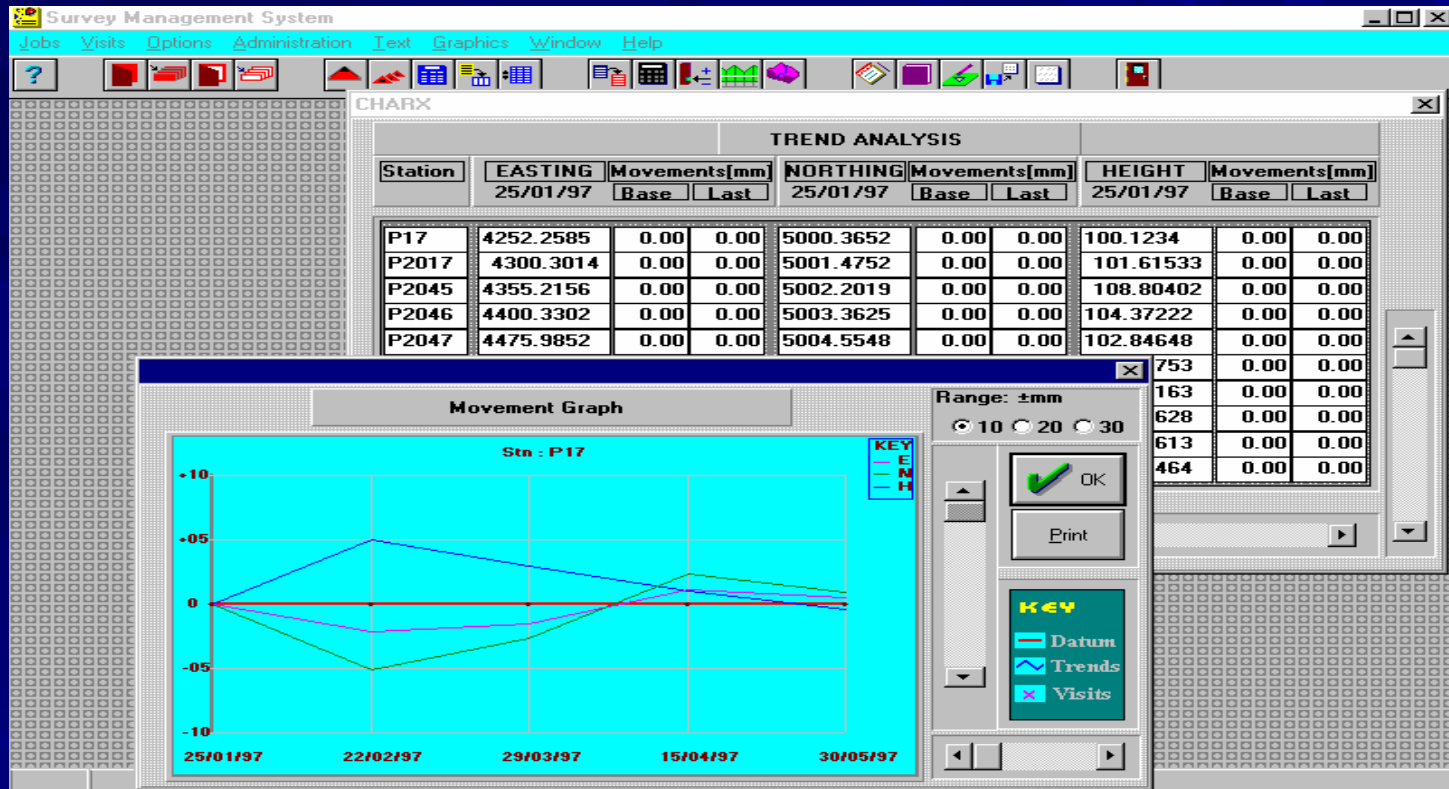

Fig. 7-2
- SMS is a complete all-in-one suite such that the use of external graphic packages is not necessary, Fig. 7-2.